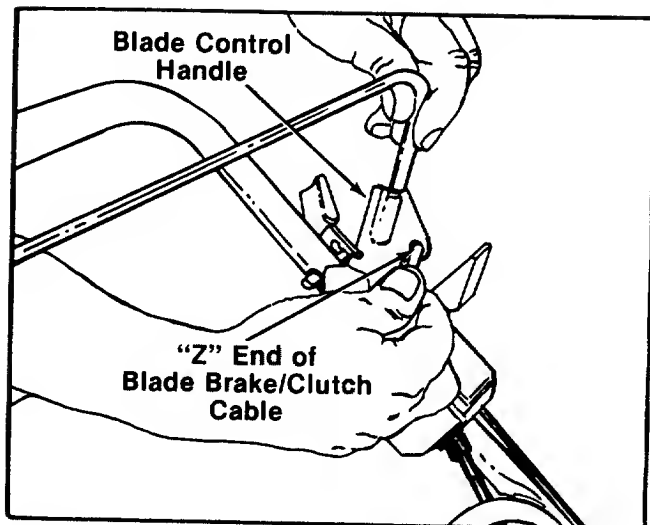

FIGURE 5.
7. Hook the "Z" end of the blade brake/clutch cable into the hole in the blade brake/clutch control handle. See figure 5. If additional slack is needed in order to hook the cable into the handle, proceed as follows.